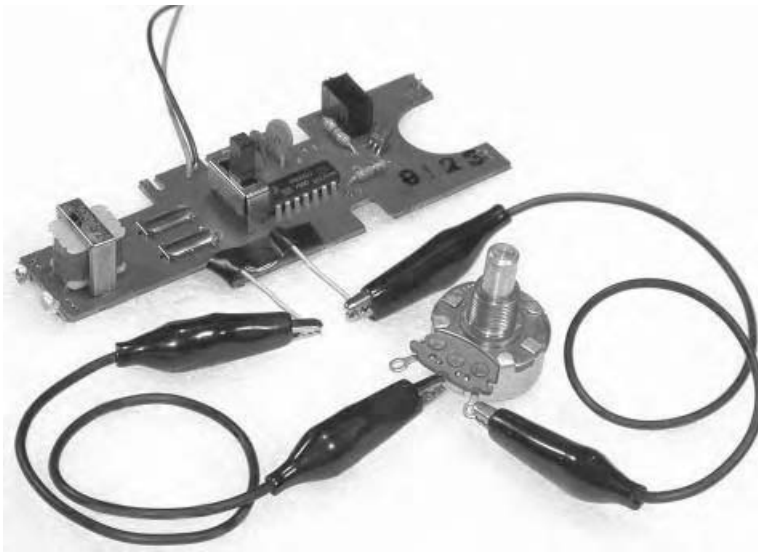

Figure 13.7 Pot substitute for a clock resistor.
Remove the resistor from the clip leads attached to the whiskers on your circuit board. Clip the free end of one of the leads to the center terminal (B) of your pot, and clip the other to the end terminal C (see figure 13.7). Rotate the pot and listen. The circuit will probably crash if you raise the pitch past a certain point and you'll have to restart it (see Rule #12, above). But as long as you stay below that point in the pot's rotation you should be able to coax a pretty wide range of sounds out of your circuit. If the toy appears to shut down when the clock is at its slowest, but restarts on its own when the pitch is raised again, the problem may be simply that the sound is going too low to be heard on the built-in speaker; try putting a telephone pickup on the speaker and amplify it through a bigger speaker (as suggested for the radio in chapter 11).